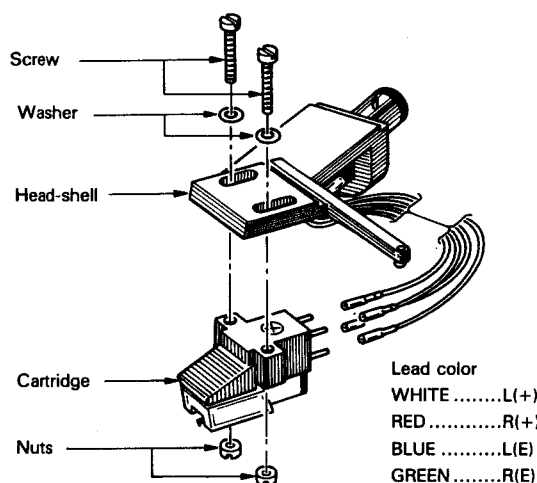

Fig. 10
- 1. Carefully insert the connectors of head-shell leads onto the appropriate pins of the cartridge. Refer to Fig. 10 for lead colors. Use tweezers or long-nosed pliers to handle the connectors.